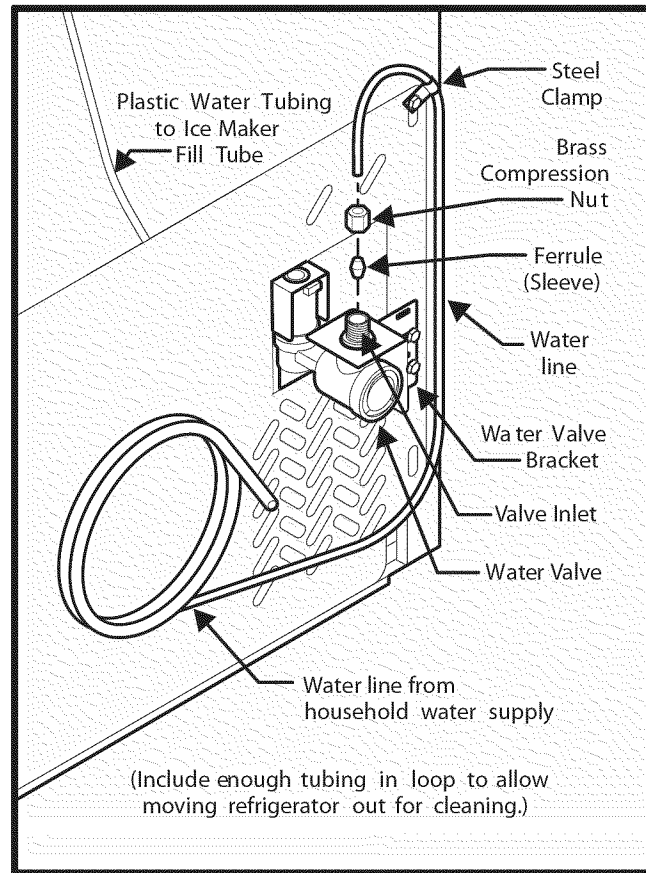

Figure 1
4. **If you use copper tubing** - Slide brass compression nut, then ferrule (sleeve) onto water supply line. Push water supply line into water valve inlet as far as it will go (¼ inch/6.4 mm). Slide ferrule (sleeve) into valve inlet and finger tighten compression nut onto valve. Tighten another half turn with a wrench; DO NOT over tighten. See Figure 1.
If you use stainless steel tubing - The nut and ferrule are already assembled on the tubing. Slide compression nut onto valve inlet and finger tighten compression nut onto valve. Tighten another half turn with a wrench; DO NOT over tighten. See Figure 1.